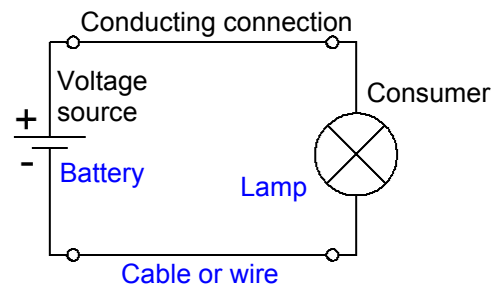
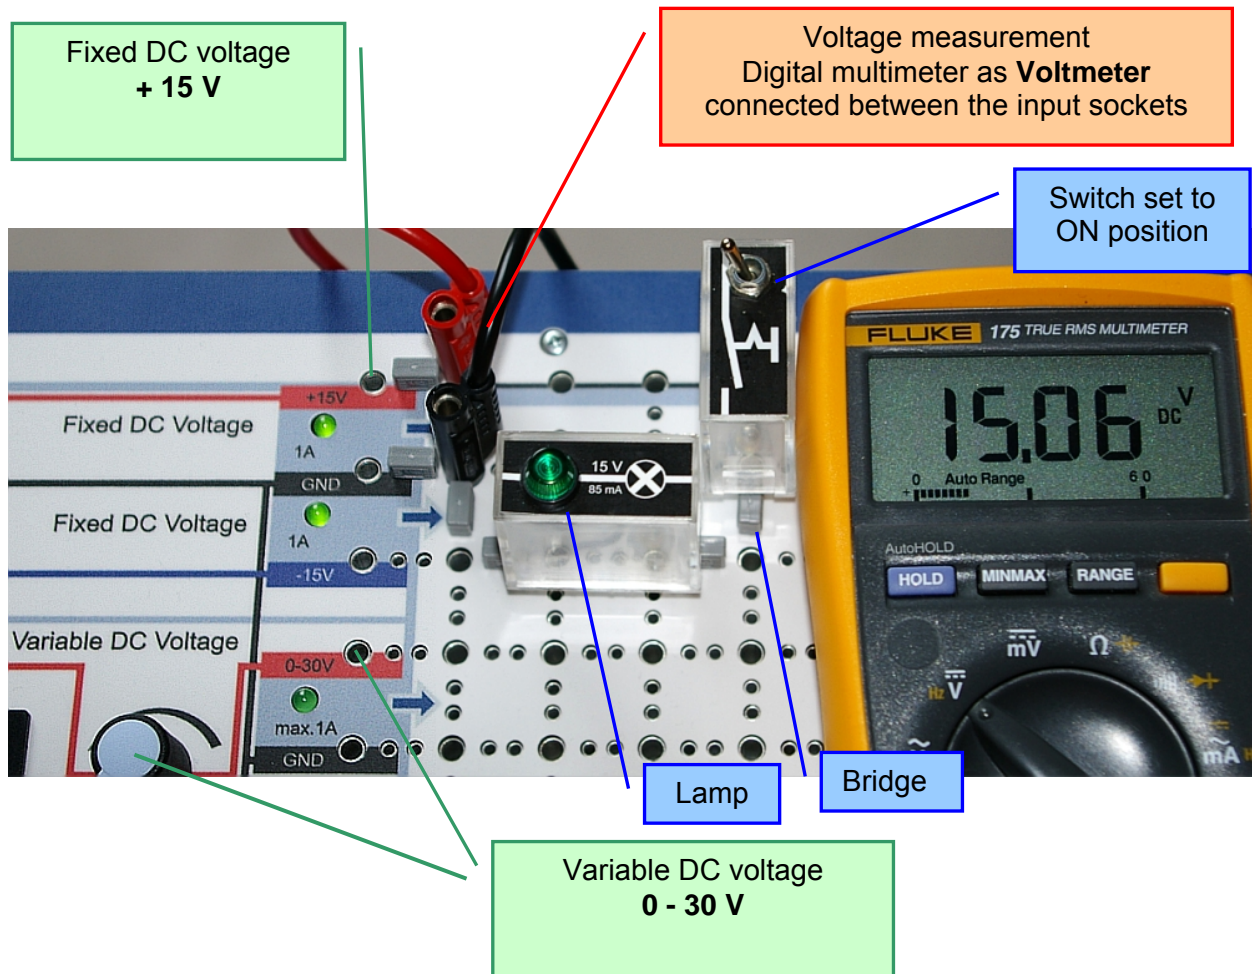

Fig. 1.1.1: The electric circuit
Fig. 1.5.2: Circuit construction and measurements on the Electronic Circuits Board
In Fig. 1.1.1 the voltage source was shown by the standard symbol for a battery. In the exercise, the DC voltage source from the Board is used. This provides a fixed voltage of 15 V or an adjustable voltage of 0 to approximately 30 V at the outputs (Fig. 1.5.2). This voltage is applied to the contacts of the circuit.
- First, the bridges should be inserted in the patchboard as 'conducting paths'. The positions marked 'Switch' and 'Lamp' remain free (see Fig. 1.5.2).
- Ensure that the circuit is connected to the outputs of the voltage source (plus pole: +15V / negative pole: GND) via bridging plugs (Fig. 1.5.2).
- Bridging plugs complete the circuit between the components lamp and switch (Fig. 1.5.2).
- The procedure for measurements with the multimeter depends largely on the type of instrument. Fig. 1.5.2 shows a voltage measurement with a digital multimeter. The voltmeter is connected to the input sockets of the circuit, using 4mm test leads.